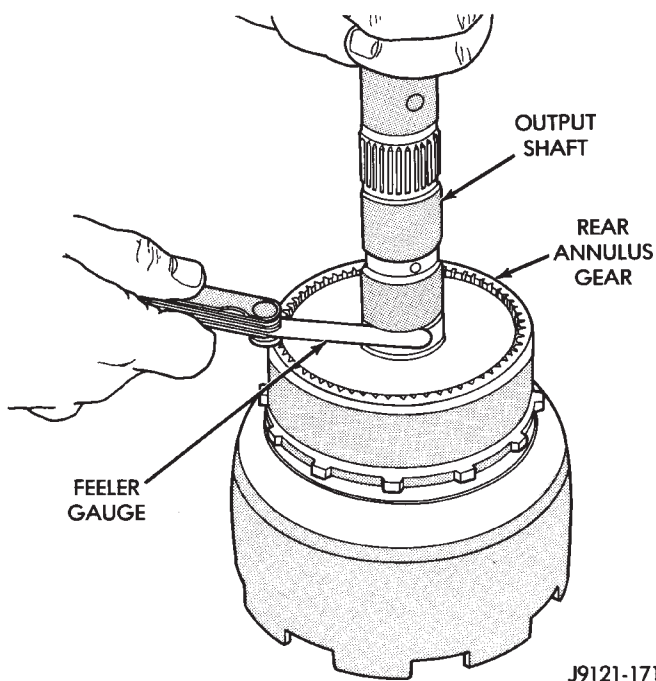

Fig. 85 Checking Planetary Geartrain End Play
(23) Turn planetary geartrain assembly over so driving shell is facing workbench. Then support geartrain on wood block positioned under forward end of output shaft. This is necessary so geartrain components will move forward for accurate end play check.
(24) Check planetary geartrain end play with feeler gauge (Fig. 85). Gauge goes between shoulder on intermediate shaft and end of rear annulus support.
(25) Geartrain end play should be 0.12 to 1.22 mm (0.005 to 0.048 in.). If end play is incorrect, snap ring (or thrust washers) may have to be replaced. Snap ring is available in three different thicknesses for adjustment purposes.